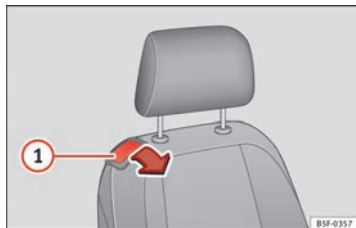

Fig. 81 Front passenger seat: lever for folding down the backrest.
- Pull lever ① ⇒ Fig. 81 and push the seat backrest until the backrest is horizontal.